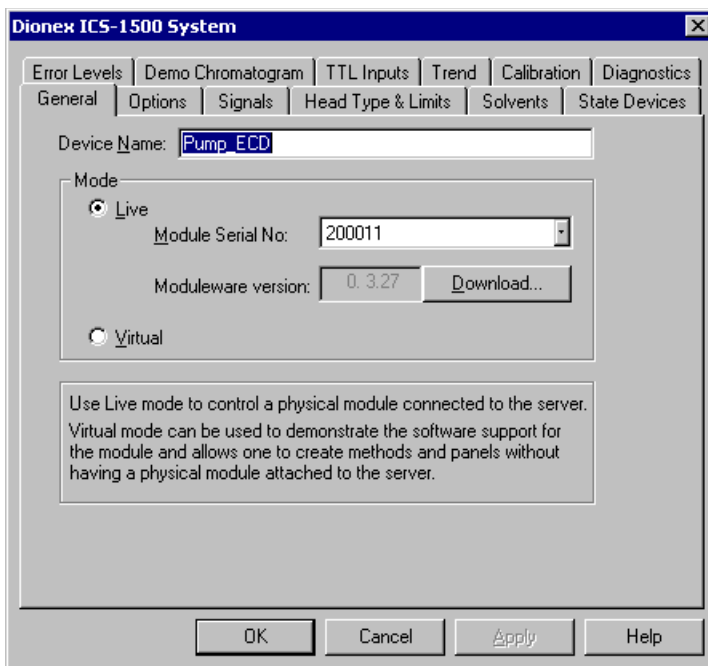

Figure B-14. ICS-1500 System Properties
3. The ICS-1500 System dialog box opens (see Figure B-14). The **General** page shows the Device Name (**Pump_ECD**), the Mode (**Live**), and the Module Serial No.